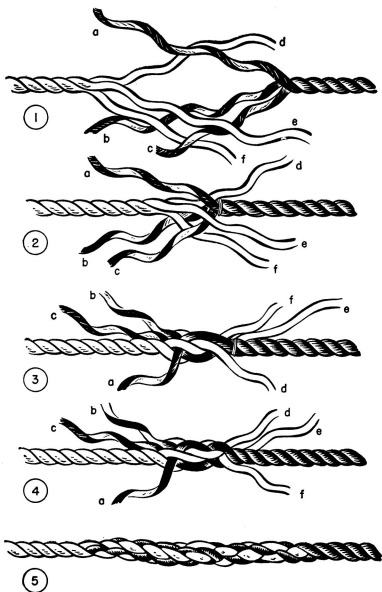

FIGURE 49.—Short splice.
■ 23. **SHORT SPLICE** (fig. 49).—*a*. Short splicing is the best method to join two ropes when an appreciable increase of rope diameter at the splice is not objectionable. A short splice should not be used when the rope will be passed over a pulley.